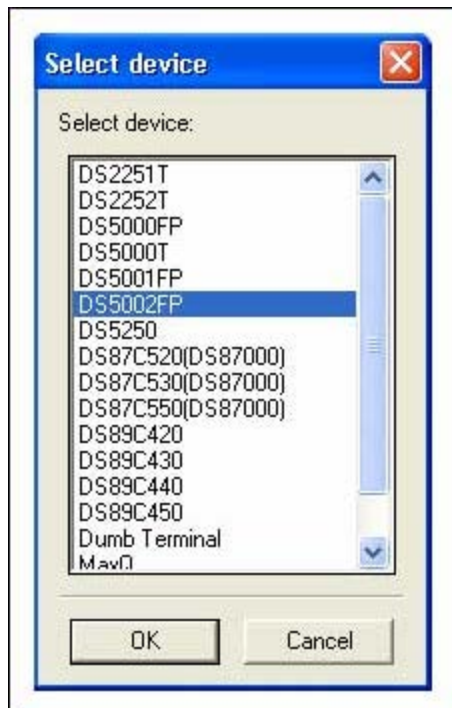

Figure 5. MTK device selection.
2. Select "DS5002FP" in the Select Device window (**Figure 5**) and click "OK."